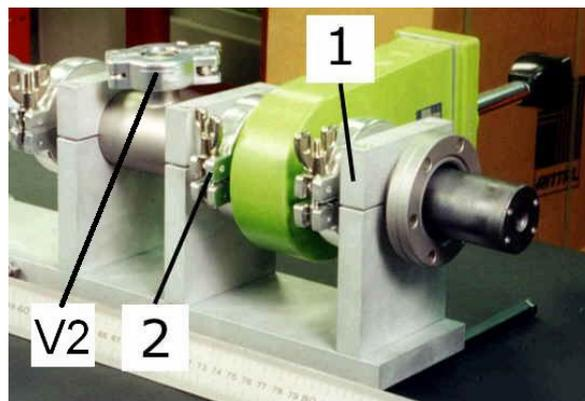

Fig.3
9. loosen the support (1) (the one before the valve VAT, see Fig.3) using the allen wrench (only for SXR1,3,4);
10. loosen the clamp (2) after the VAT, as seen in Fig.3;